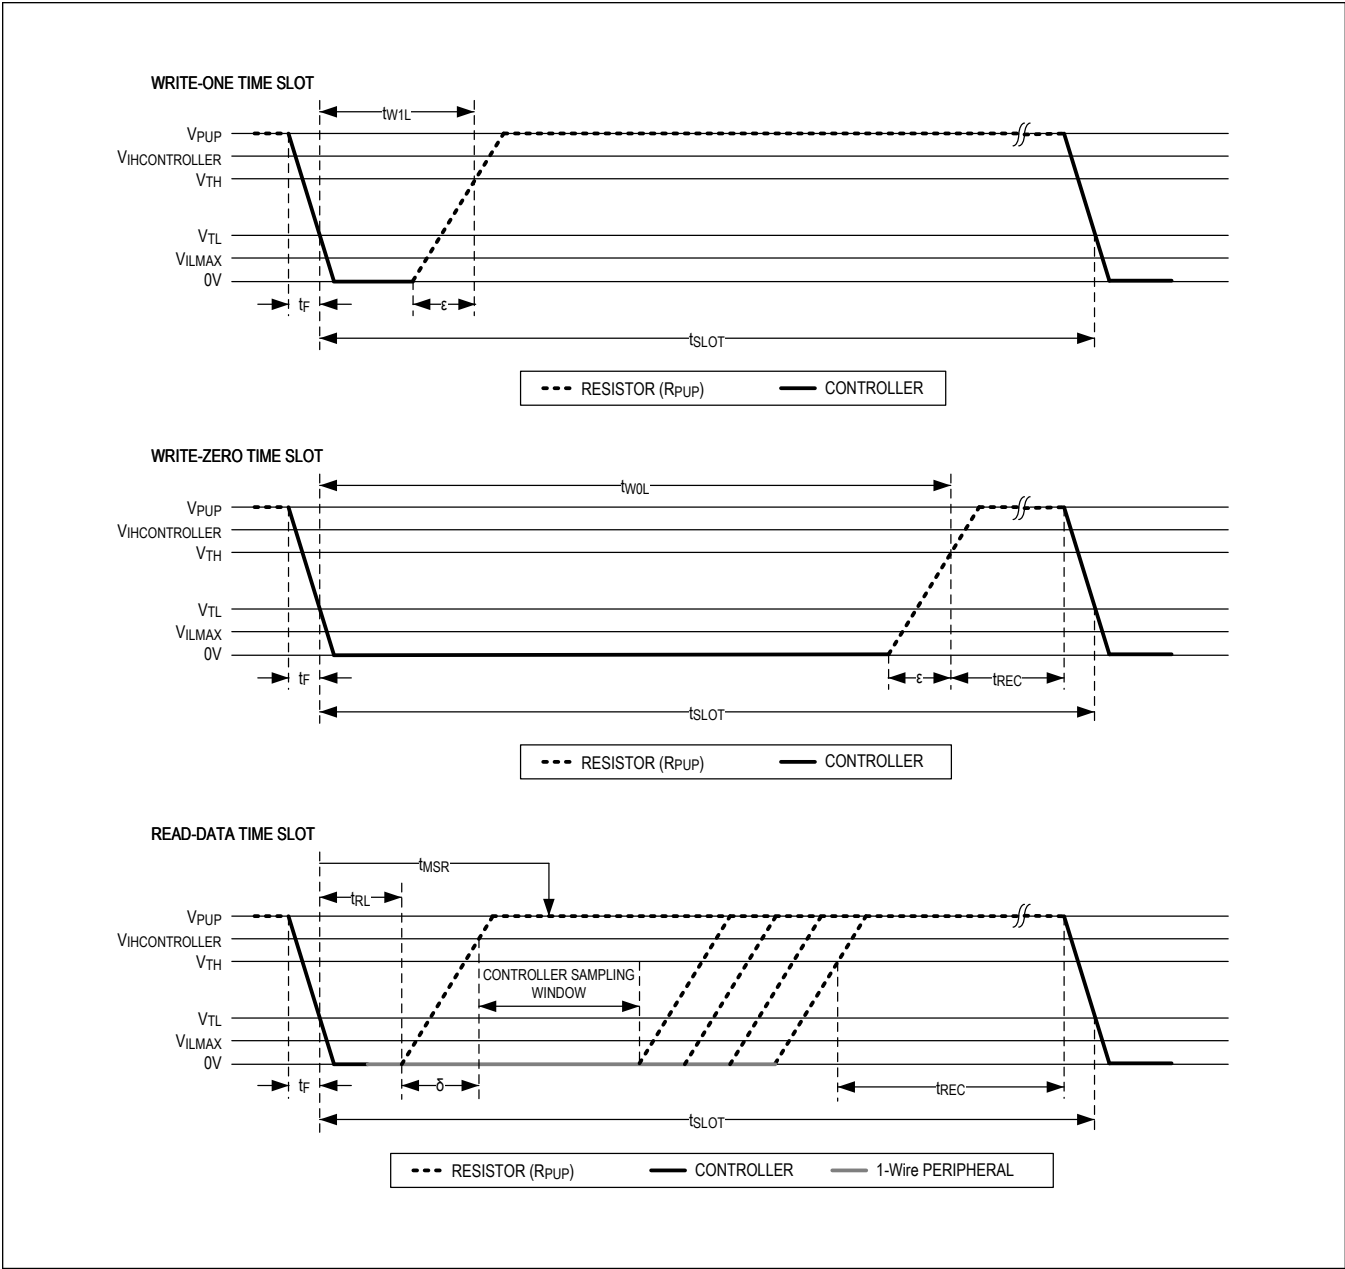

Figure 4. Read/Write Timing Diagrams
**Note 13:** System requirement.  $\epsilon$  in Figure 4 represents the time required for the pullup circuitry to pull the voltage on IO up from  $V_{IL}$  to  $V_{TH}$ . The actual maximum duration for the controller to pull the line low is  $t_{W1LMAX} + t_F - \epsilon$  and  $t_{W0LMAX} + t_F - \epsilon$ , respectively.
**Note 14:** System requirement.  $\delta$  in Figure 4 represents the time required for the pullup circuitry to pull the voltage on IO up from  $V_{IL}$  to the input-high threshold of the bus controller. The actual maximum duration for the controller to pull the line low is  $t_{RLMAX} + t_F$ .
Data communication with the DS28E50 takes place in time slots that carry a single bit each. Write time slots transport data from bus controller to peripheral. Read time slots transfer data from peripheral to controller. Figure 4 illustrates the definitions of the write and read time slots. All communication begins with the controller pulling the data line low. As the voltage on the 1-Wire line falls below the threshold  $V_{TL}$ , the DS28E50 starts its internal timing generator that determines when the data line is sampled during a write time slot and how long data is valid during a read time slot.